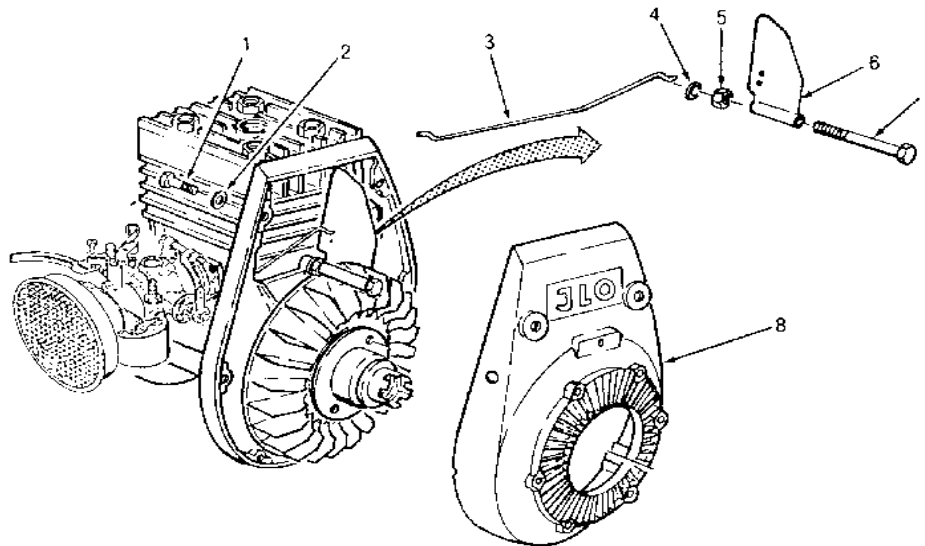

Figure 12, Repair Engine Speed Control System
Step 11: Repair engine speed control system. (Figure 12)